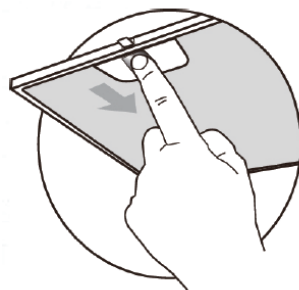

Fig. 1
1. Remove the metal filters as shown in Fig. 1.